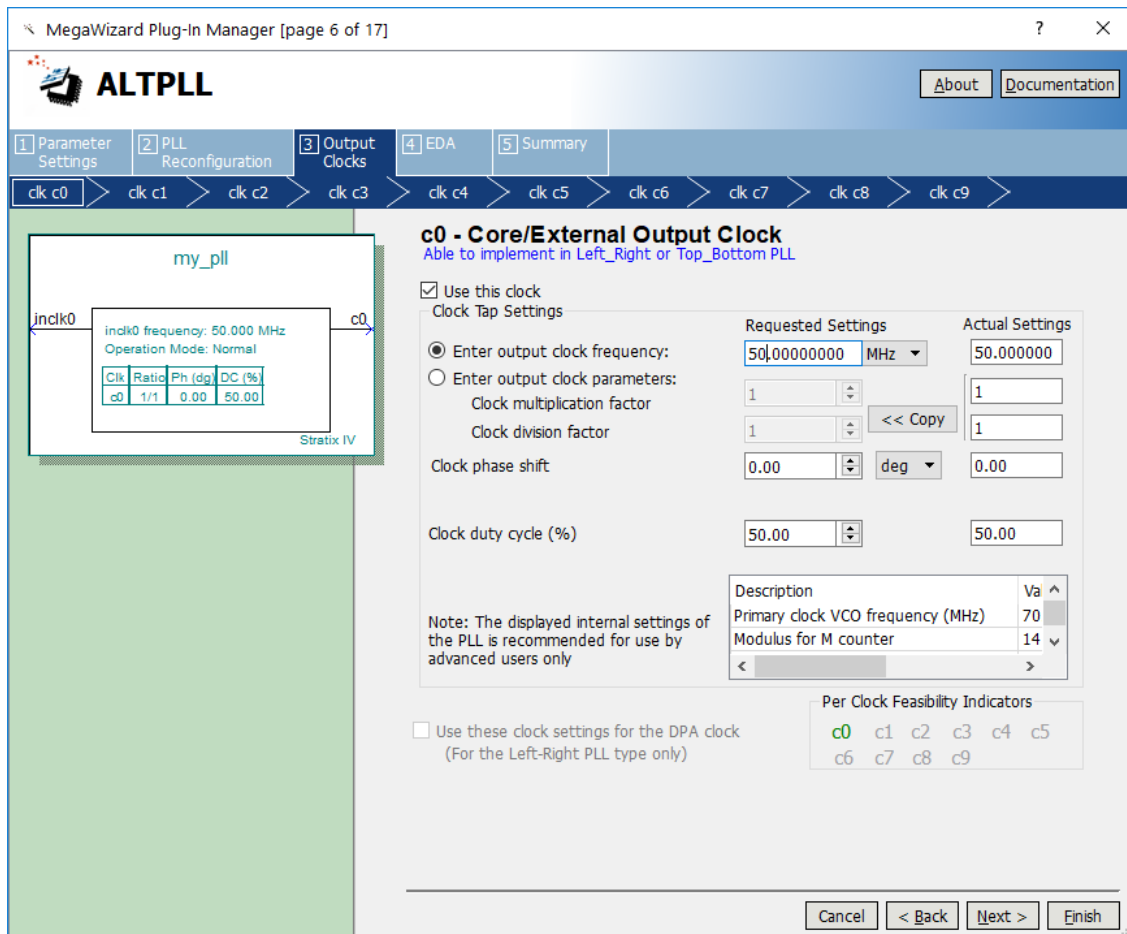

Figure 16. Settings for output c0.
- Under the **Output Clocks** tab, enter 50MHz after selecting **Enter output clock frequency** as shown in Figure 16, and click **Next** to go to the **clk_c1** section.